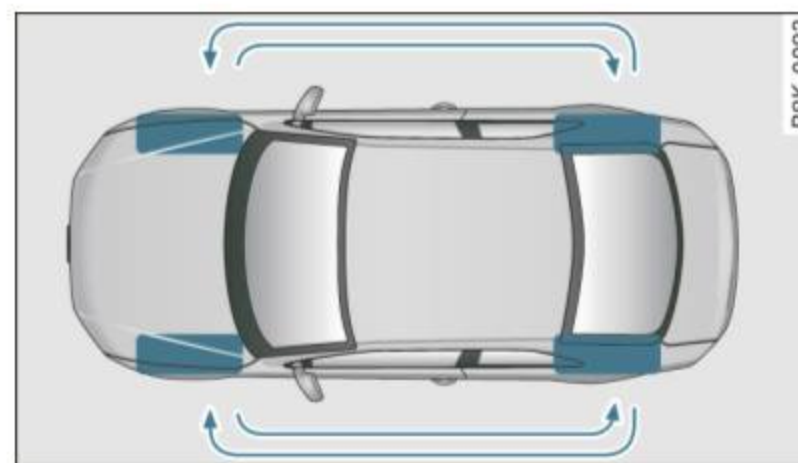

Fig. 213 Rotating tires for more even wear
- Please rotate tires as shown ⇒ *page 286*, fig. 213.